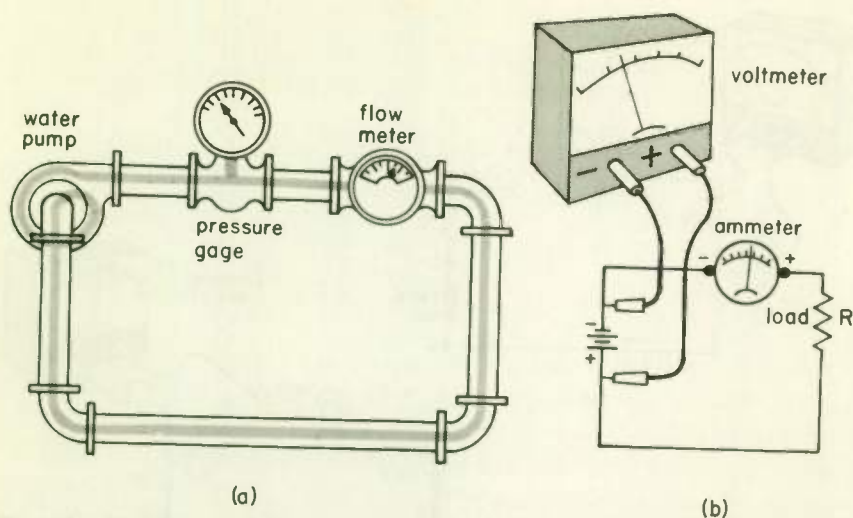

Fig. 30 Water flow measurements and corresponding electrical measurements.
9 **VOLTMETERS AND THEIR USE . . .** As preceding illustrations have shown, an ammeter is connected in series, so that the current being measured must pass through the ammeter. The needle deflection is proportional to the amount of current passing through the meter. In other words, we hook up an ammeter in just the same way we would a water flow meter, as shown in Fig. 30(a). The water in the system must flow through the flow meter, just as the current in (b) must flow through the ammeter.
But notice in Fig. 30(a) that we don't connect a water pressure gage so that the water flows through it. If we tried to, no water could flow, since water can't get through a pressure gage. The gage consists of a diaphragm that is distended by the water pressure. This bulging out of the diaphragm pushes against the pressure-indicating needle.
Since a voltmeter measures the electrical equivalent of pressure, it can not be connected in series like an ammeter. If it were connected in series, only negligible current would get through, because a voltmeter has an extremely high resistance. As shown in Fig. 30(b), a voltmeter must be connected in parallel with the voltage to be measured. That is, one of the voltmeter test leads is connected to each side of the voltage being measured. In Fig. 30(b) we connect the leads to the two battery terminals and thus measure the battery voltage.
properly connected as in Fig. 30(b), the resistance of the load R limits the current from the battery so that the ammeter will not burn out unless the current taken by the load is greater than the meter is designed to measure.
By "load" (a term used a lot in electronics) we mean the device to which the voltage source is furnishing power. Although we represent the load in Fig. 30(b) by a resistance, it could be a toaster, an amplifier, a transistor, or anything at all that you are using the battery to supply current to. The value of the resistance R is the equivalent resistance of the actual load, whatever the load might be.
1. Even though the load on a circuit might be a transmitter, it can be represented by a resistance, such as R on Fig. 30(b). The value of R is the (a) EQUIVALENT resistance of the transmitter. If the load were six vacuum-tube heaters connected in parallel, each with a resistance of 18Ω , then the value to show for the load resistance R would be (b) 3 ohms.